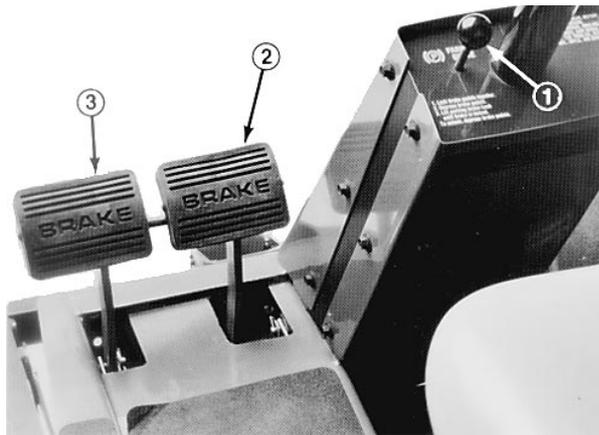

Figure 7
**Service Brakes** (Fig. 7)—The left and right brake pedals are connected to the left and right front wheels. Since both brakes work independently of each other, the brakes can be used to turn sharply or to increase traction if one wheel tends to slip while operating on certain slope conditions. However, wet grass or soft turf could be damaged when the brakes are used to turn sharply. To make a “quick-stop”, depress both brake pedals together. Always lock the brakes together when transporting the traction unit.